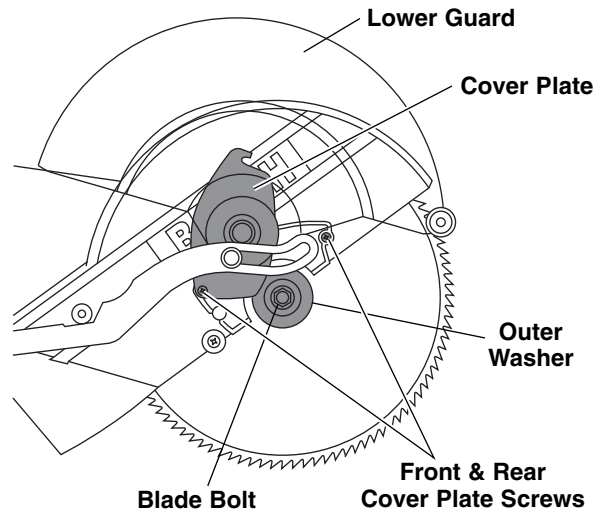

Figure 1. Blade Removal
2. Loosen, but do not remove, both cover plate screws (front and rear). (Figure 1)
3. Lift the lower guard and the cover plate so the blade bolt is exposed (Figure 1).